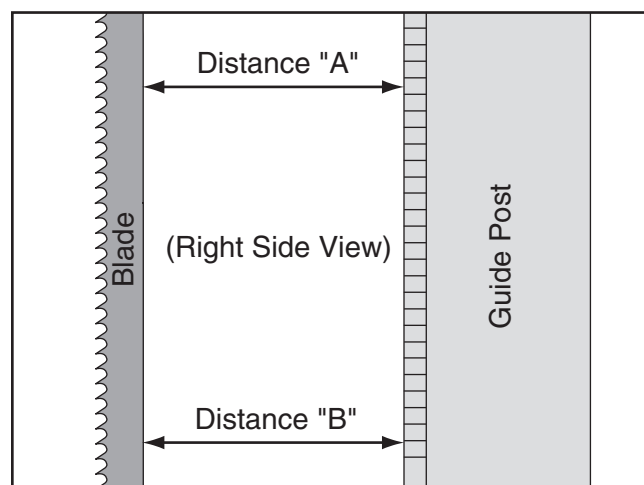

Figure 105. Example of measuring distance between guide post rack and blade.
4. Measure distance "A" between upper front face of guide post rack back of blade (see **Figure 105**).
5. Measure distance "B" between bottom front face of guide post rack and back of blade (see **Figure 105**).